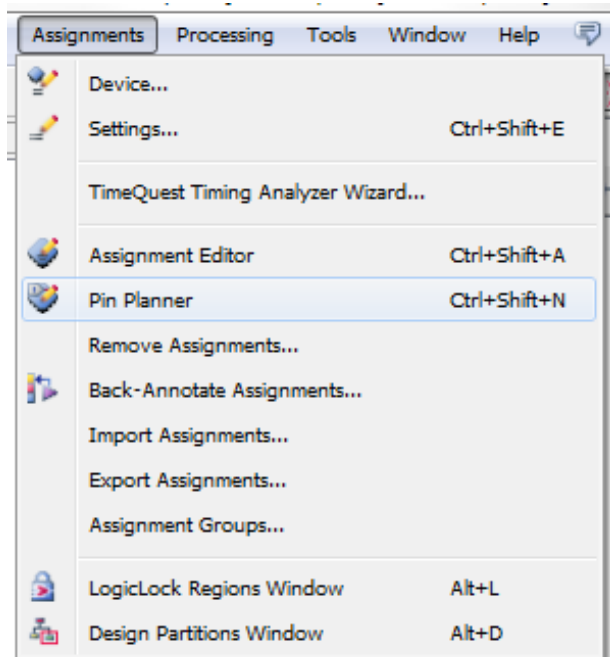

Figure 4.6.1: Accessing the pin planner
1. In the main window, go to Assignment and selecting “Pin Planner” (Figure 4.6.1).